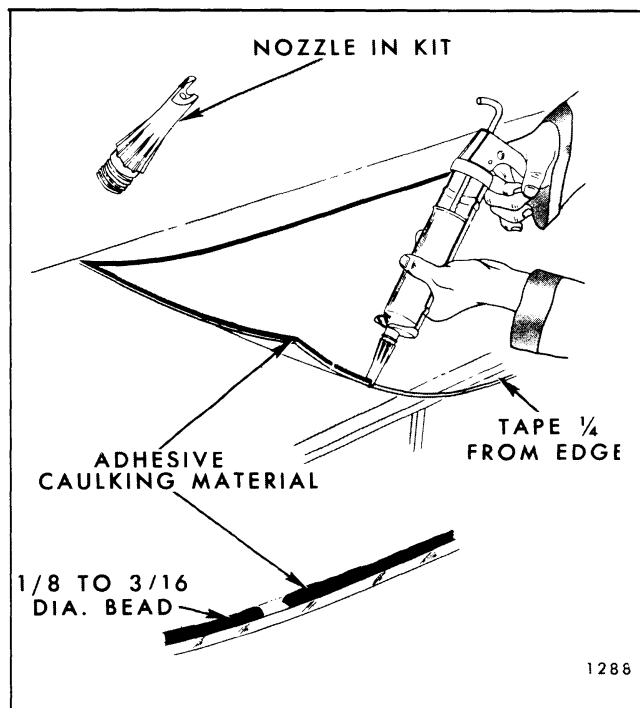

Fig. 1-13-Adhesive Material Application - Short Method
7. Apply smooth continuous bead of adhesive material around entire inside edge of glass. Material should be 1/8" to 3/16" in diameter (Fig. 1-13).